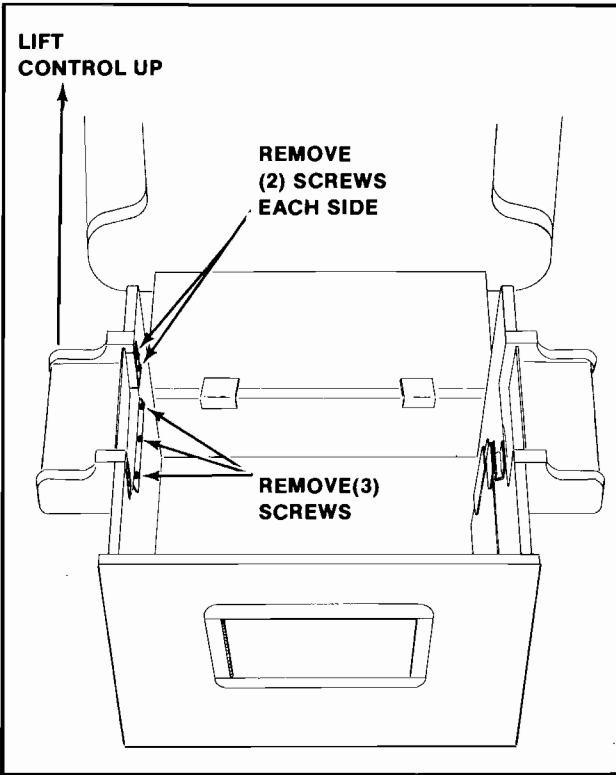

Figure 4-4 Removing the Control Panel — Cocktail
**2. COCKTAIL TABLE MODEL:** See Figure 4-4.
Remove the screws which secure the control panel in place. See Figure 4-4.